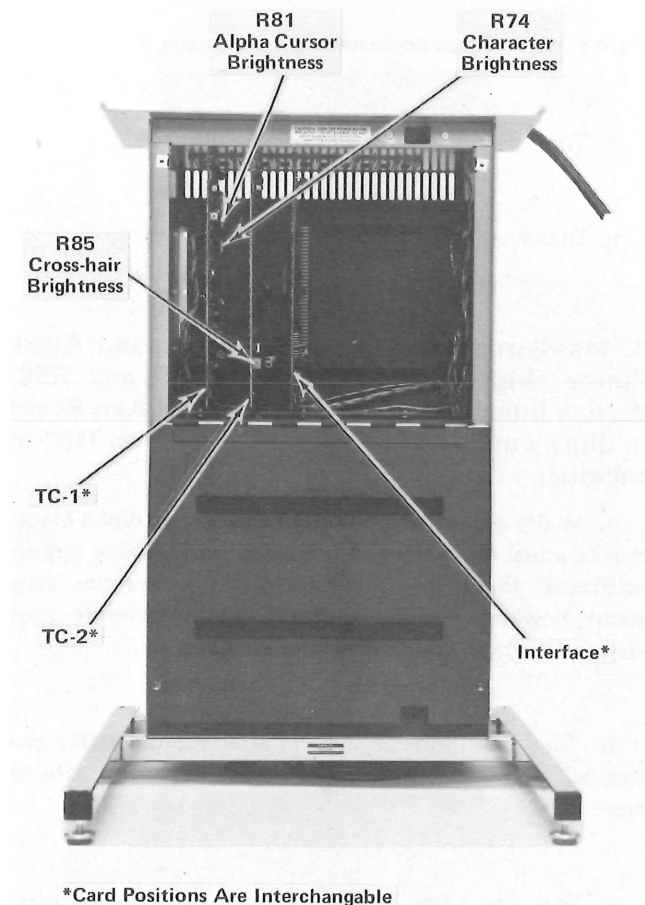

Fig. 4-7. Pedestal Circuit Card Information.
d. At TC-1 in the top of the pedestal unit, turn R81, Alpha Cursor Brightness, fully clockwise. (See Fig. 4-7 for location.)
i. At TC-1, adjust R81, cursor brightness (Fig. 4-7) until the cursor is at minimum brightness consistent with good viewing.
good viewing. The crosshair should not be so bright that it stores; move the thumbwheels to check for storing. The R85 location is shown in Fig. 4-7.
(6) Adjust X GAIN for a horizontal line length of approximately 7.9 inches.
(7) Readjust X POS for approximate centering of the horizontal line.
(8) Adjust Y GAIN for approximately 6 inches between the bottom of the vertical line and the horizontal line intercept point. (Vertical potentiometer at upper limit.)
(9) Readjust Y POS to approximately center the area described in (8).
(10) Adjust X GEOM for optimum straightness of the vertical line.
(11) Adjust Y GEOM for optimum straightness of the horizontal line.
(12) Press PAGE and then enter four Zs. Check that the Zs are clearly noticeable as writing occurs. The Zs might or might not store at this time, depending on the position of the OP LEVEL adjustment. If the Zs are not clearly noticeable during writing, adjust R74, Character Brightness, on TC-1 (Fig. 4-7) and repeat the check.